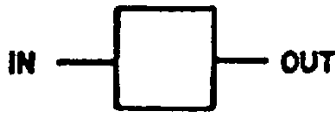

Figure 4-14. General Symbol
**4-20.** (See Figure 4-14). Differentiators and waveform shapers are represented by a general rectangular symbol. Identifying characters are incorporated in or around the symbol.